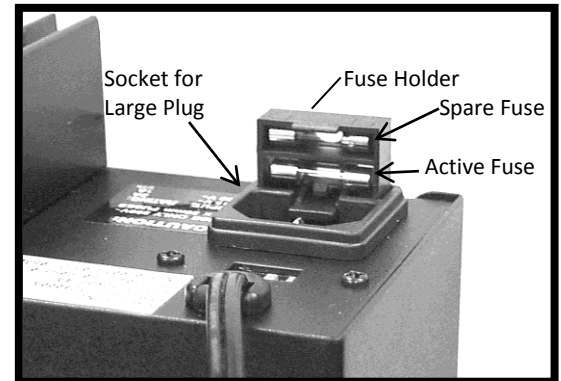

Figure 8: Battery Charger Fuse Holder
5. With a small flat-blade screwdriver or similar tool, pry up the fuse cover to expose the fuses (Figure 8).